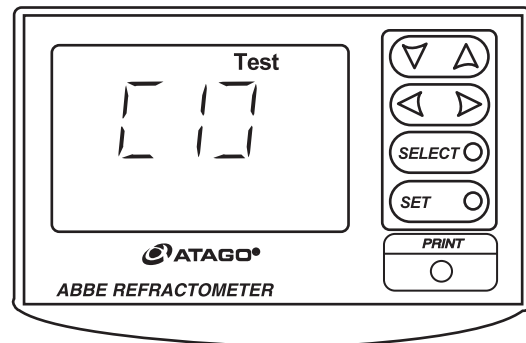

Fig. 10-1
① Press the SELECT key until the mode indicator shows "Test". As "Test" appears in the display, [1] appears in the measurement value indicator (Fig. 10-1).